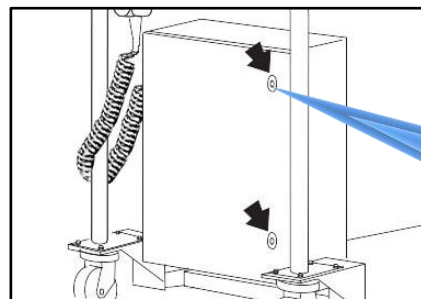

Figure 11
6. On the base unit open the electrical control box door by turning the two Allen head screws with the 5/16" Allen wrench, provided (Figure 11).